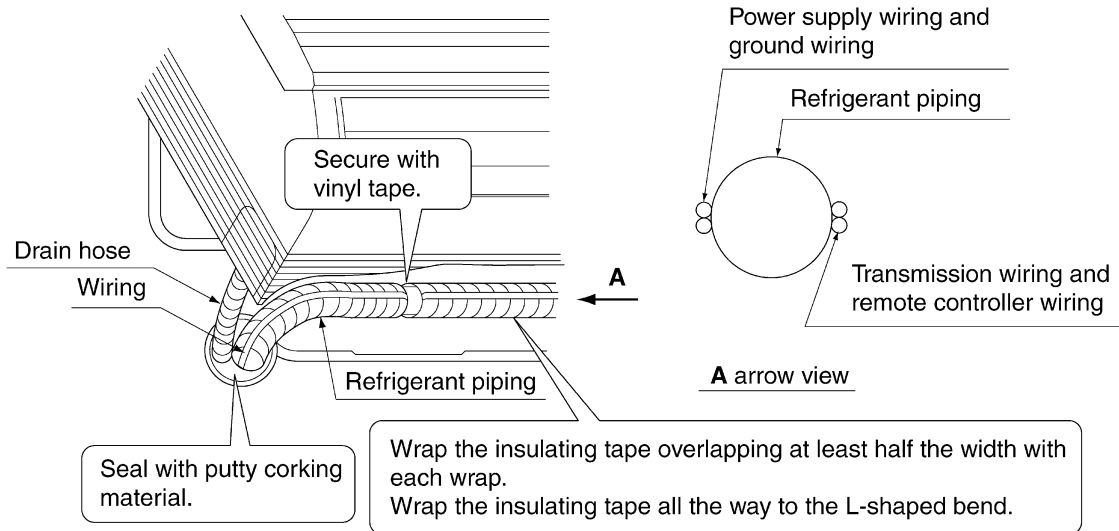

Fig. 10
(7) Pass power supply wiring, transmission wiring, ground wiring, and remote controller wiring through the wiring guide in through the back of the indoor unit and to the front.
(8) Connect the piping. (See Fig. 10)